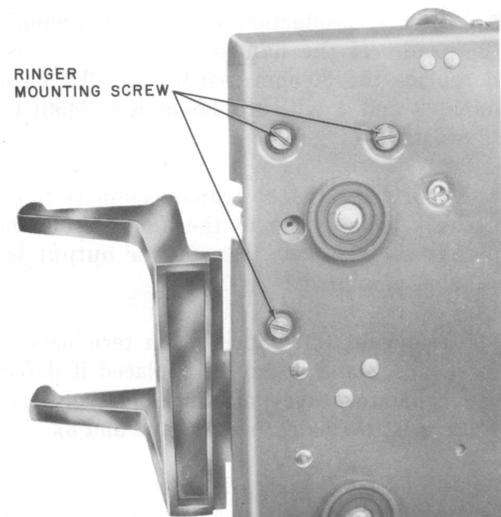
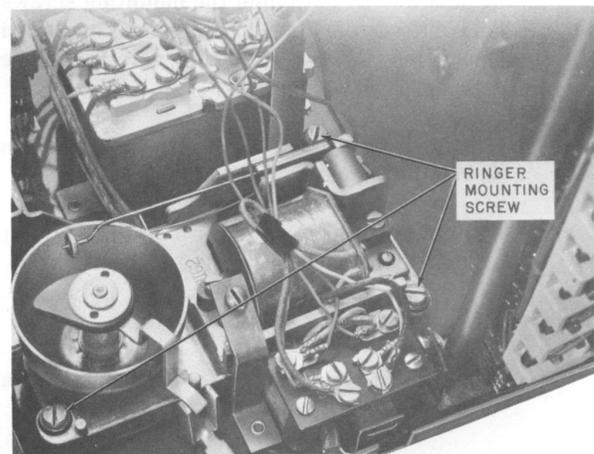

Fig. 9—Location of Mounting Screws for N1A Ringers
Fig. 10—Location of Mounting Screws for D1-Type Ringers
- (1) Remove housing.
- (2) Loosen dial mounting plate and move to left.
- (3) Disconnect ringer leads.
(4) Remove N1A ringer mounting screws from underside of baseplate (Fig. 9), or loosen captive screws of D1-type ringers (Fig. 10).
(5) Lift out ringer.